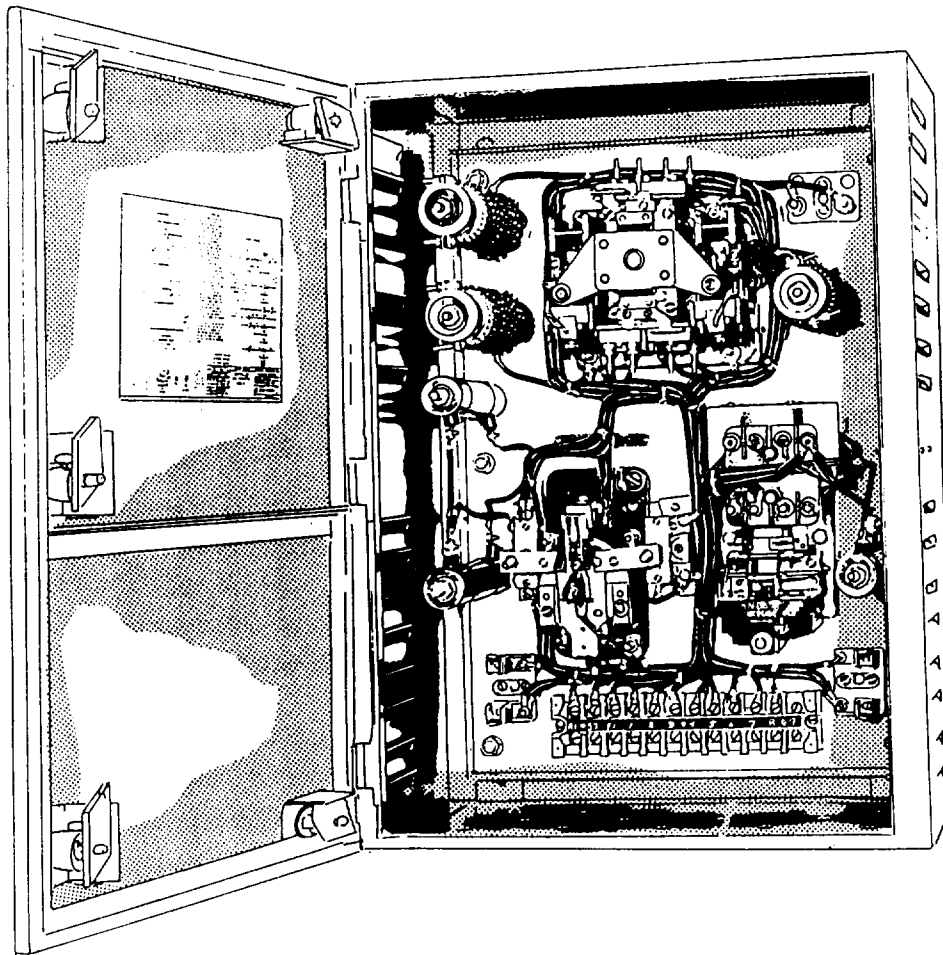
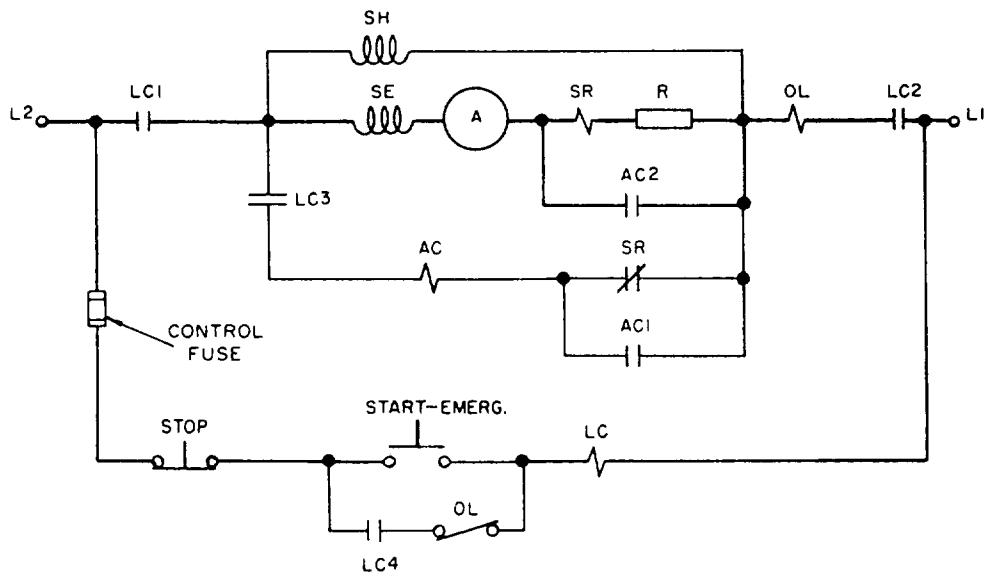

Figure 1-14.-A typical controller.
Figure 1-15.-A dc controller with one stage of acceleration.
Figure 1-14 shows a typical dc controller. The connections for this motor controller with one stage of acceleration are shown in figure 1-15. The letters in parentheses are indicated on the figures. When the start button is pressed, the path for current is from the line terminal (L2) through the control fuse, the stop button, the start button, and the line contactor coil (LC), to the line terminal (L1). Current flowing through the contactor coil causes the armature to pull in and close the line contacts (LC1, LC2, LC3, and LC4).
If the motor becomes overloaded, the excessive current through the overload coil (OL) (at the top right of fig. 1-15) will open the overload contacts (OL) (at the bottom of fig. 1-15), disconnecting the motor from the line.